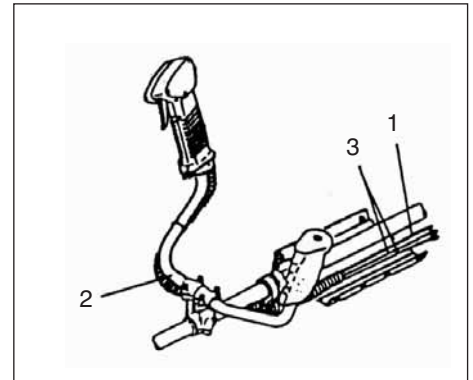

Fig.1-3B
Put stop cords (3) and throttle wire (1) through protective tube (2), then unhook the hip pad. (Fig. 1-3B)